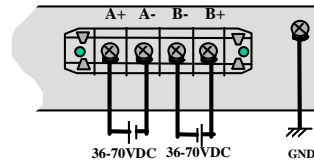

Figure C5.0: -48VDC Dual-Source, wiring connections to the External Terminal Block on a Magnum 48VDC with Dual-Source option
The -48VDC terminal block on the Magnum 4K-Series Switch is located on the right rear of the unit and is equipped with five (5) screw-down lead posts (see Fig C5.0). The primary terminals are identified as positive (A+), negative (A-), and the secondary power terminals as negative (B-), positive(B+). The chassis “earth” or ground (GND), is a threaded post with a #6 nut.